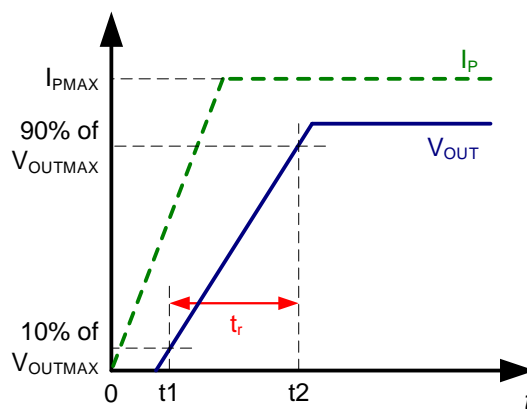

**Figure 6: Propagation Delay ( $t_{PD}$ )**
2.  $t_2$ :  $V_{OUT}$  reaches 20% of its final value, as it corresponds to the applied primary current (see Figure 6).